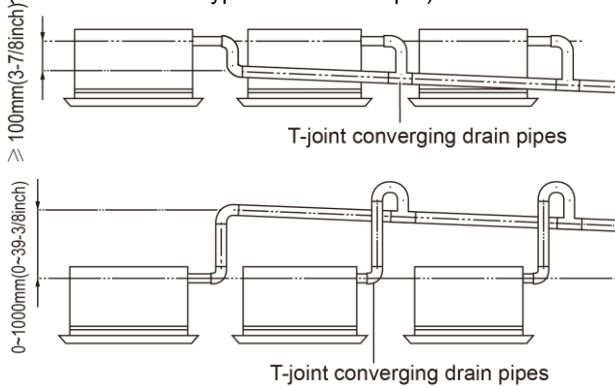

Fig. 4.20
- (3). When unifying multiple drain pipes, install the pipes as Fig. 4.20. Select converging drain pipes whose gauge is suitable for the operating capacity of the unit. (take the cassette type unit for example)